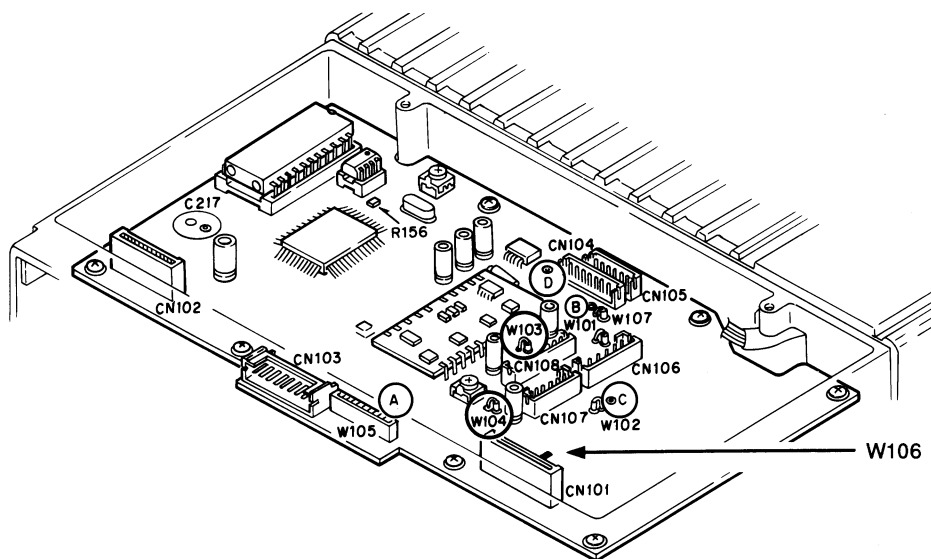

Fig. 1-5 Control unit (X57- A/4)
4. Install the KRK-3DH on radio 1 using the four flat head screws (N32-3006-46) (1).
5. Short W106 on the control unit by soldering. (Fig. 1-5)